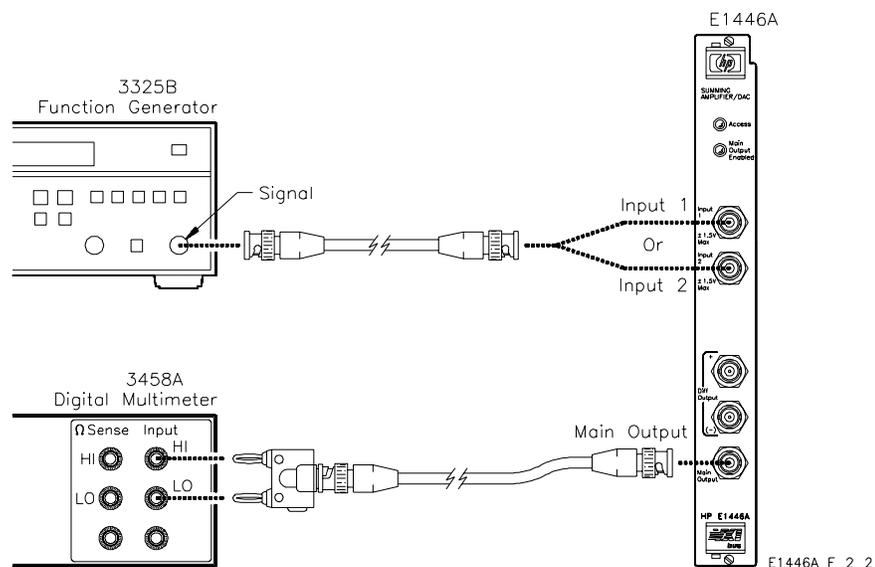

Figure 2-2. Output Attenuation Test Setup
- Connect the DMM to the amplifier as shown in Figure 2-2
2. Connect the Source to Input1 as shown in Figure 2-2.
8. Connect the Source to Input2 as shown in Figure 2-2.